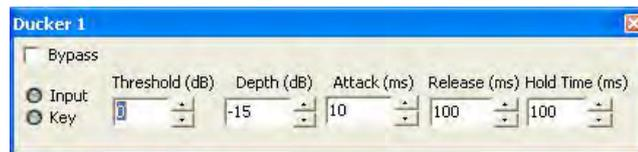

Figure 4-8: Ducker Controls
- Ducker: The Ducker allows the user to bring 2 inputs into each channel, one as the BGM source and one as the Paging source. When the paging source input exceeds a set threshold, then the BGM input will be reduced in level set by the depth control. The attach and release times set the speed of response and the hold time will hold the ducker active (ie BGM input low) for a set time after the paging input goes low. The hold time stops the ducker switching in and out during gaps in speech. See Figure 4-8 below.